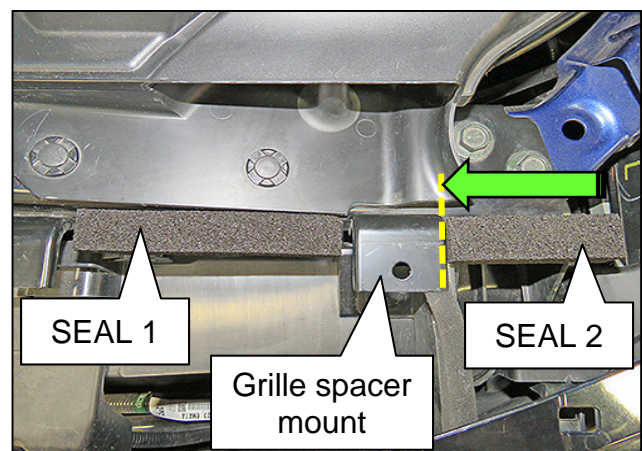

Figure 11
- It is up against the edge of grille spacer mount as shown in Figure 11.